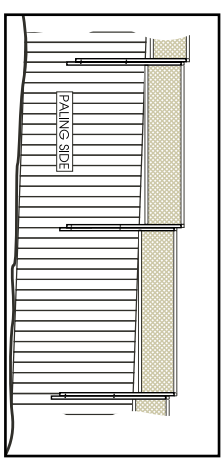

Fig 1b
- If the fence has varying contours, step the Matrix Fence Extensions as illustrated in Fig 1b.